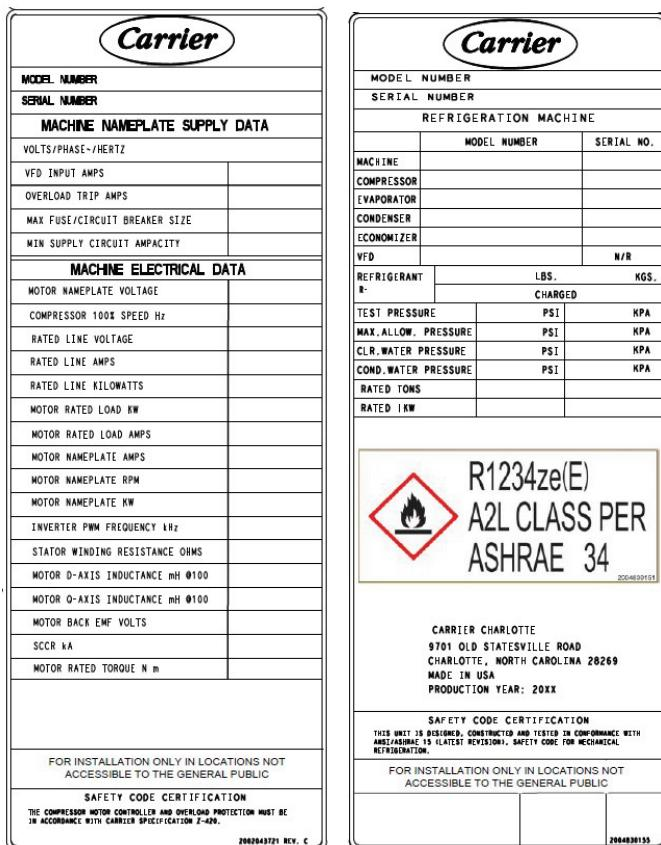

Fig. 37 — Machine Identification Nameplate and VFD Electrical Nameplate
- Chiller identification nameplate — Located on the left side of the power panel. See Fig. 37.
- VFD Nameplate data - located on the right side of the VFD. See Fig. 37.